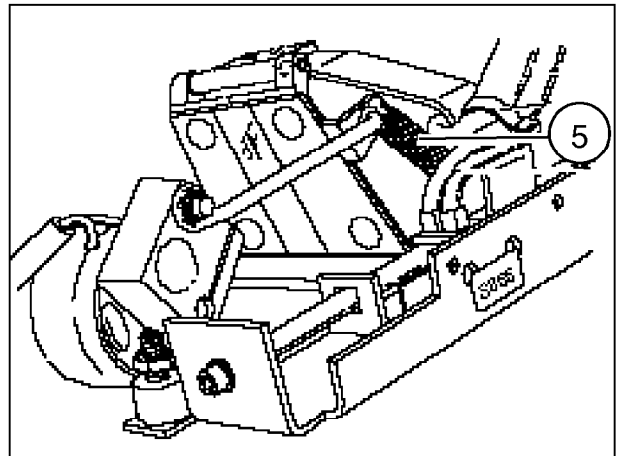

Fig. 4
- Replace the spring (5/Fig.4).